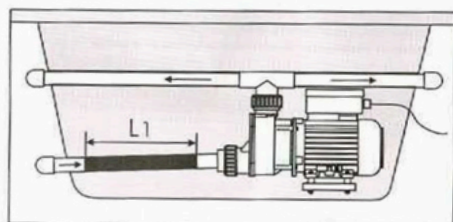

Fig. 2
-2.2 The heater can be installed with inlet of bathtub pump (Fig.2). (Note:It can't be fixed by binding..)